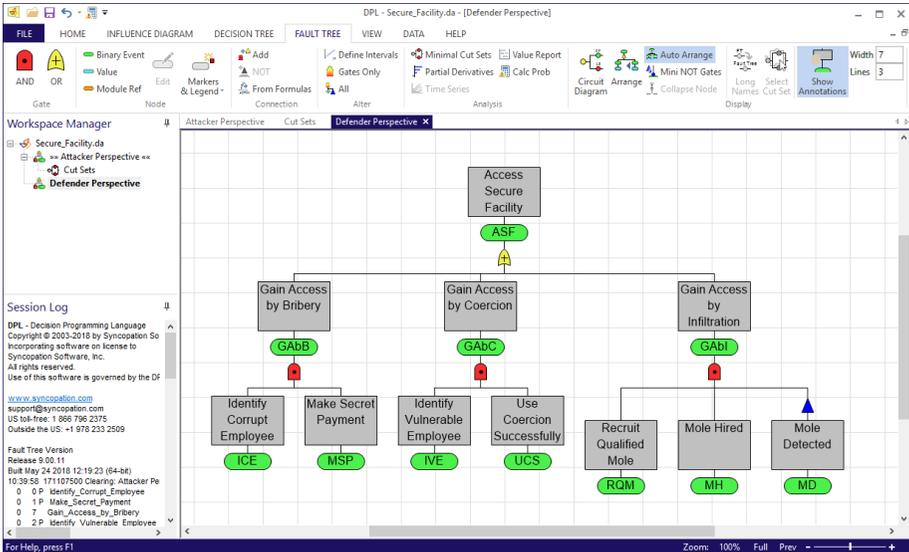

Figure 6-3. Renamed Fault Tree
- ⇒ Rename the new fault tree: Defender Perspective. See Figure 6-3.